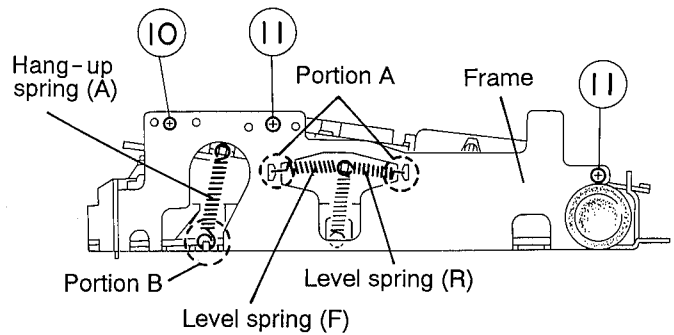

Fig. 4-14
4. Remove only the portion A of four level springs (F and R) on the right and left sides of the CD mechanism assembly (See Figs. 4-14 and 4-15).
5. Remove only the portion C of two hang-up springs (A) on the right and left sides of the CD mechanism assembly (See Figs. 4-14 and 4-15).
(See Figs. 4-14, 4-15 and 4-18).
10. From both sides of the frame, remove four screws (11) retaining the damper (See Figs. 4-14 and 4-15).
6. Tighten four screws retaining the right and left side dampers (See Figs. 4-14 and 4-15).
9. Set the respective springs to the specified positions (See Figs. 4-14 ~ 4-17).